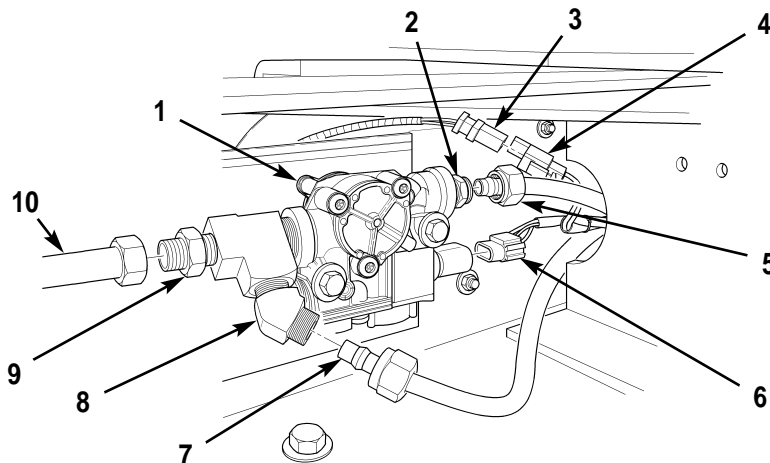

Figure 3. Disconnecting Rear Wheel Sensor and Modulator.
1. Disconnect wheel sensor cable (figure 3, item 3) from wheel sensor harness connector (figure 3, item 4) and disconnect modulator harness connector (figure 3, item 6) from rear modulator (figure 3, item 1).
2. Disconnect two tubes (figure 3, Items 5 and 7) from adapter (figure 3, item 2) and elbow (figure 3, item 8) on rear modulator (figure 3, item 1).
3. Disconnect tube (figure 3, item 10) from adapter (figure 3, item 9) on rear modulator (figure 3, item 1).